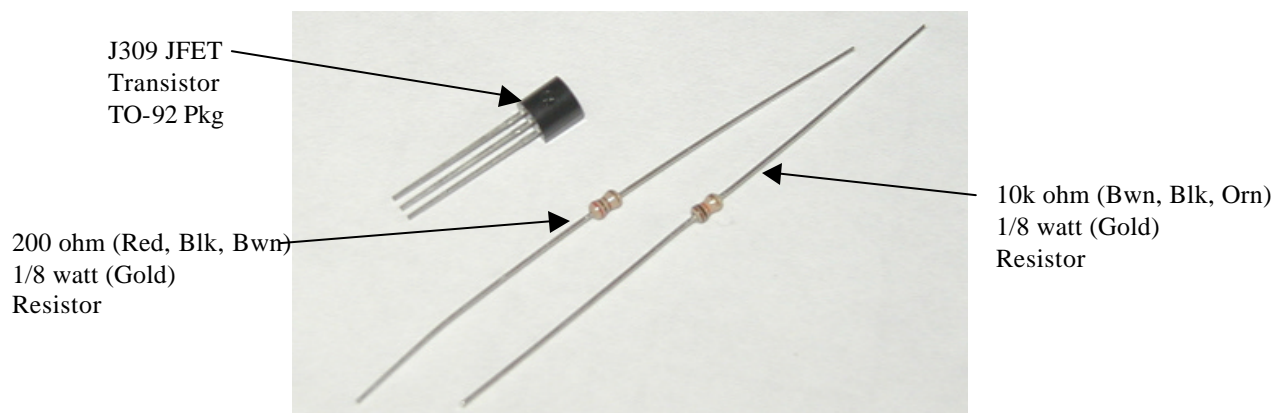

Figure 1: Required components for IR modification. (One set per channel)
1. Before beginning, ensure you have all the required components (**Figure 1** below).